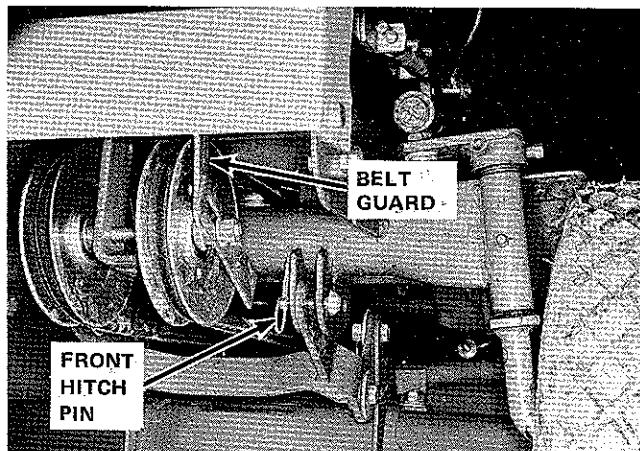

FIGURE 1
4. Attach the mower hitch arms to the ears on the tractor front axle. Use two pins and spring clips, placing them through the front holes in the ears and the hole at the end of the hitch arms. (See Figure 1).